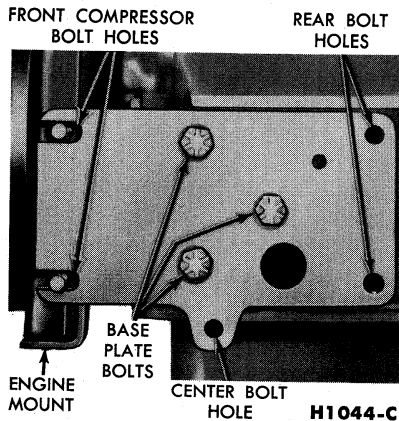

FIG. 5—Base Plate—Side-Mounted Compressor
6. Clean the compressor base and cylinder block base plate (Fig. 5).
8. Install pilot studs in the two rear bolt holes shown in Fig. 5, and position the base gasket to the base plate over the studs. From underneath the truck, mount the compressor to the pilot studs and install three retaining bolts. Remove the pilot studs and install the remaining two bolts.